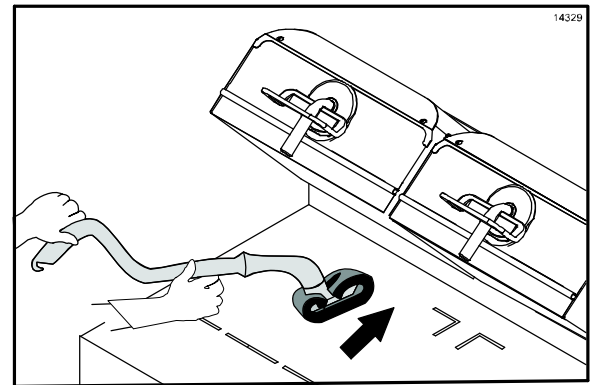

Figure 46
15. Spread a light coating of the grill cleaner over the entire lower grill surface, using front to back strokes. Allow the product to remain on the grill while spreading across all surfaces. (See Figure 46.)